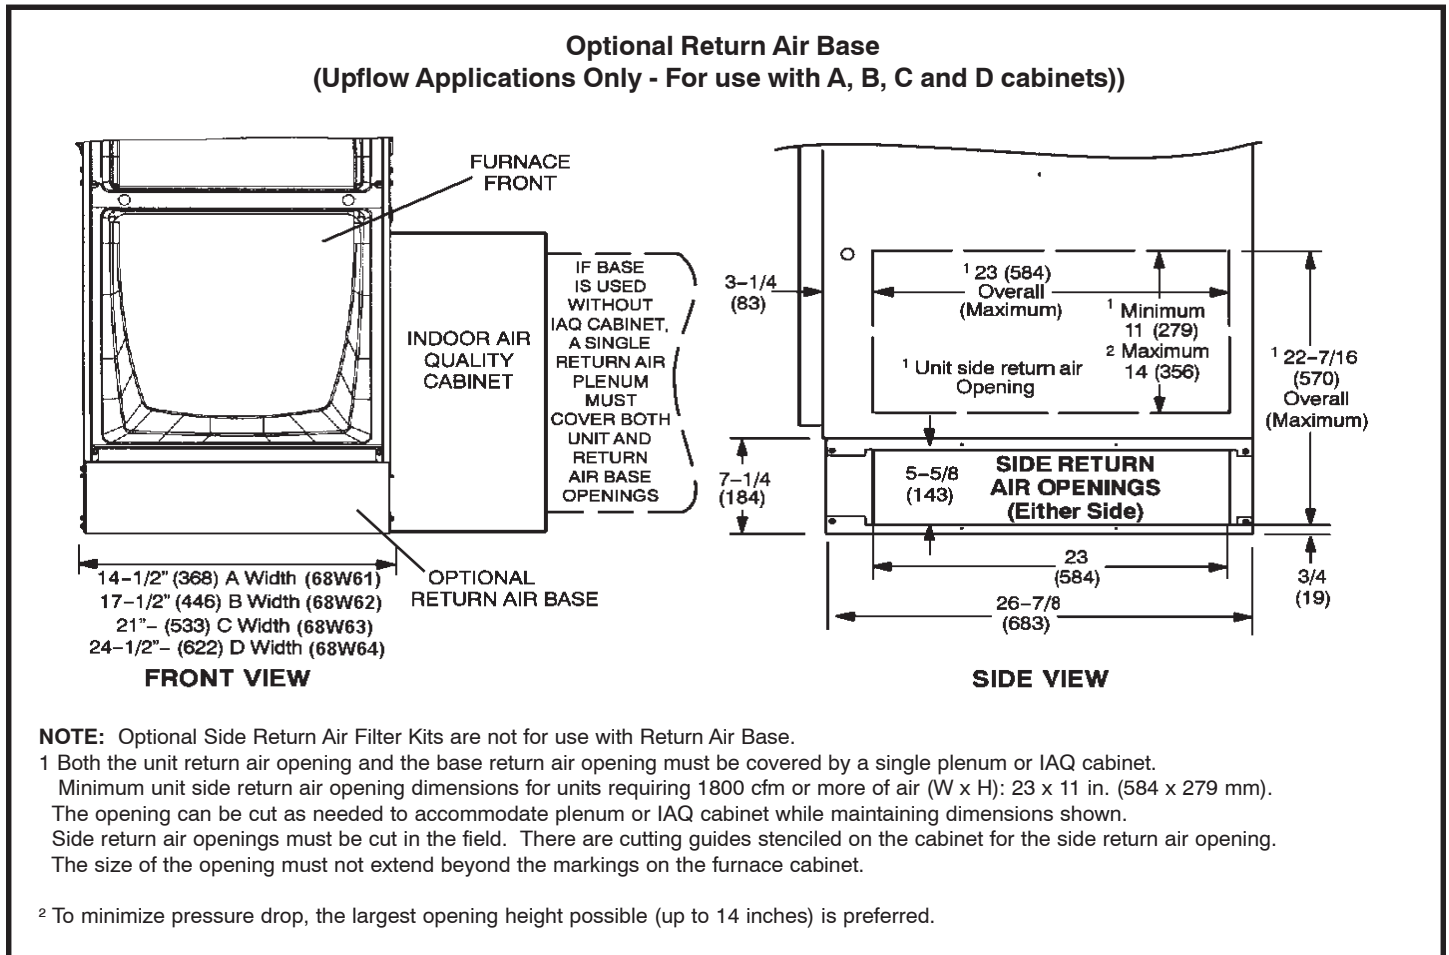

Figure 10
2. **Single side return air with optional return airbase.** See Figure 10.